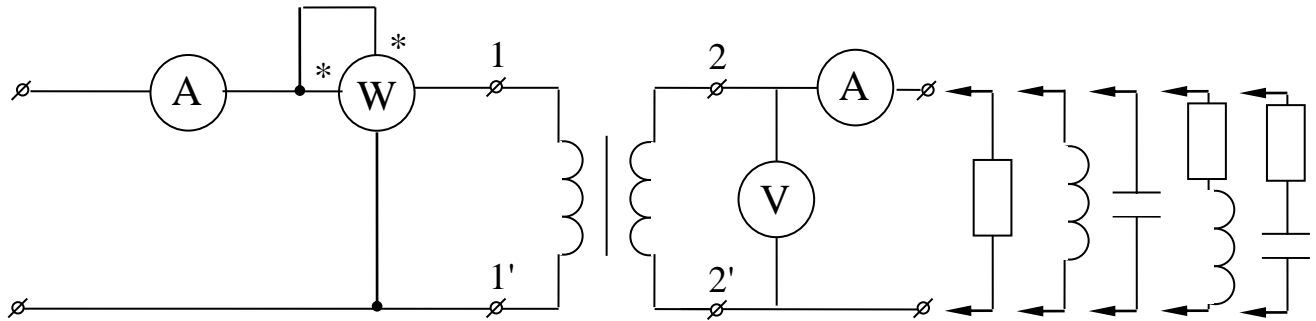

Fig. 5.15
4. Collect the electrical circuit (fig. 5.15). Investigate the transformer at nominal mode with a nominal input voltage $V_{Inom} = 220V$ and a nominal input current I_{Inom} for given load $Z = R + jX$. Fill in the table 5.2 with results.